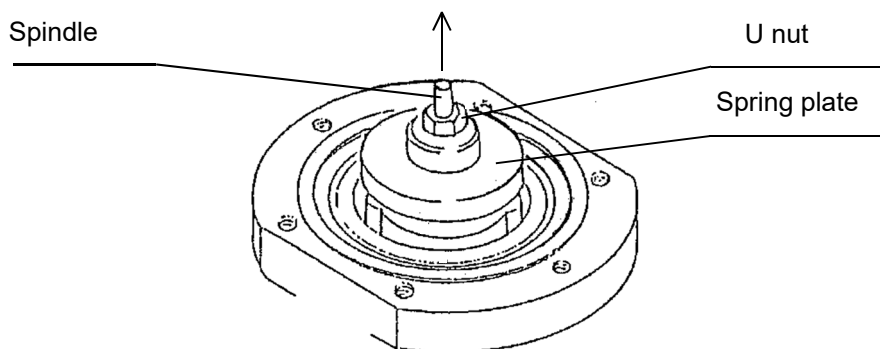
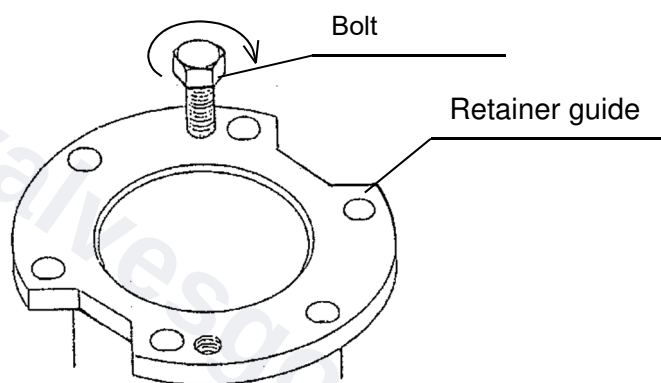

Fig. 13
Fig. 14
- (1) Before leading fluid into the product, close the stop valves at the inlet and outlet of the product and remove foreign substances and scale from the piping completely by using a bypass line.
- (2) To adjust the set pressure, turn the adjusting screw slowly.
- (3) If closing outlet side of the product and keeping fluid inside the product for an extended period, sliding parts become stuck and it causes malfunction of the product.
- (4) If there is a possibility of freezing or the product is not used for an extended period, completely discharge fluid from the product and pipes, and close the stop valves at the inlet and outlet sides of the product.
- (5) If the systems have been out of service for a long time, please perform the following operational checks before restarting the systems.
• Check if the set pressure changes when turning the adjustment screw (see Fig. 13).
- (6) In case of primary pressure for size 65A to 150A is unstable because of an air obstruction or etc. adjust opening of needle valve at detecting pipe. It is fully opened at the time of shipment.
- (7) The set pressure may be affected by ambient temperature (external temperature) and fluid temperature. Install pipes so that the product may not be exposed to direct sunlight.
- (8) Follow the steps below, and slowly turn the adjusting screw to set pressure. Incorrect adjustment may cause hunting, water hammer, etc., resulting in damage to the valve and other equipment.
- (1) Release the internal pressure completely, and make sure of zero pressure.
- (2) Slightly loosen the lock nut [14] and turn the adjusting screw [13] counter clockwise to relieve the adjusting spring [12] (Unload the spring).
- (3) Remove the hexagon bolt [29] from the spring chamber [2], then remove the spring chamber, and take out the adjusting spring [14] and the spring plate [10].
- (4) To remove the diaphragm [9], fix the spindle [5] and remove the U nut [18].
- (5) To remove the retainer [6], loosen and remove the retainer guide [8] clamping bolt [16] and pull the retainer guide. Remove it by the bellow method (Fig.13, Fig.14) when it is difficult to remove the retainer guide].
- (6) To remove the valve seat [3], pull the spindle.
- (7) Fix two planar sections at spindle and loosen U nut for spindle to remove it, then the valve can be dismantled.
To remove the retainer guide [8] easily, install the spring plate [11] and U nut [18] to spindle [5] again and pull the spring plate. (Fig. 13)
To remove the retainer guide [8] easily, screw the bolt [18] to retainer guide and pull it. (Fig.14)